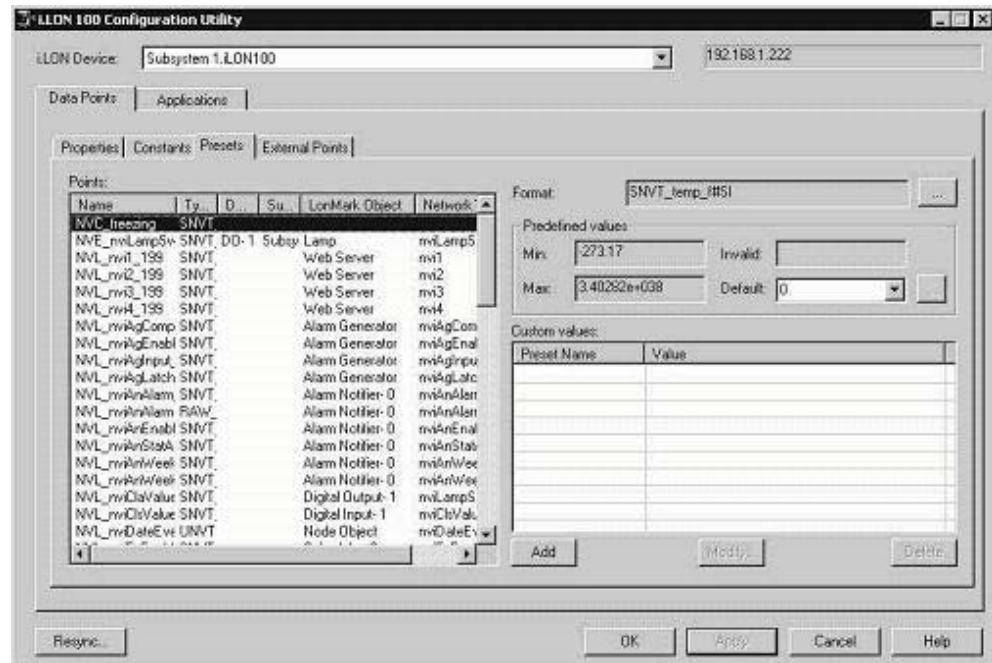

Figure 4.9 Data Point Presets Tab
7. Use the **Data Point Presets** tab to set the default value of this constant, as shown in Figure 4.9. This is the value that the data point will be set to. This step is described in more detail in the next section.
2. Select the **Data Points** tab and then the **Presets** sub. The **Presets** tab is shown in Figure 4.9.